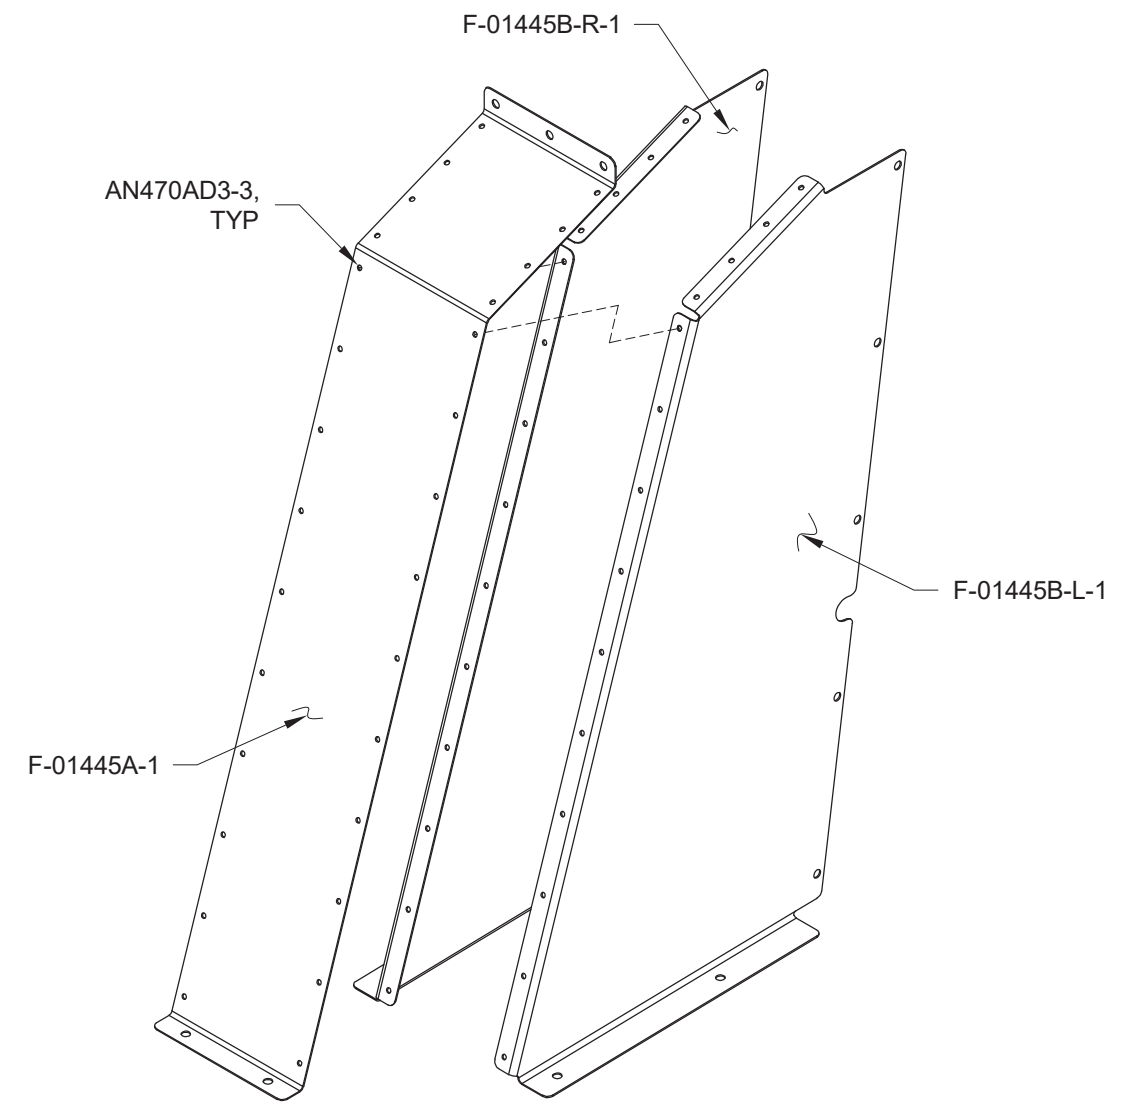

FIGURE 3: FLAP MOTOR COVER ASSEMBLY
Step 3: Rivet the F-01445A-1 Flap Motor Cover Front to the F-01445B-L-1 & -R-1 Flap Motor Cover Sides with the hardware called out in Figure 3. This is now the Flap Motor Cover Assembly.